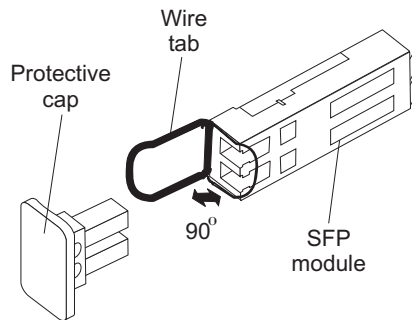

Figure 36. Unlocking the SFP module latch - wire variety
- For SFP modules that contain wire tabs, unlock the SFP module latch by pulling the wire latch outward 90°, as shown in Figure 36.